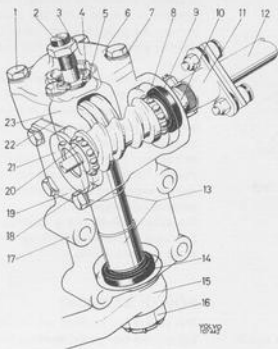

Fig. 6-41. Steering gear
The steering gear is of the "worm and roller" type and its construction is shown in Fig. 6-41. It has a ratio of 17.5:1. The worm (10) is journaled in two ball bearings (8 and 20) and it is tensioned by means of shims (22). The pitman arm shaft (sector shaft) is journaled in two bushes (13) and its roller in two needle bearings. Since the roller mesh in the steering worm is determined by the axial position of the pitman arm shaft, the adjusting screw (2) regulates the steering gear clearance. The steering gear is lubricated with hypoid oil.